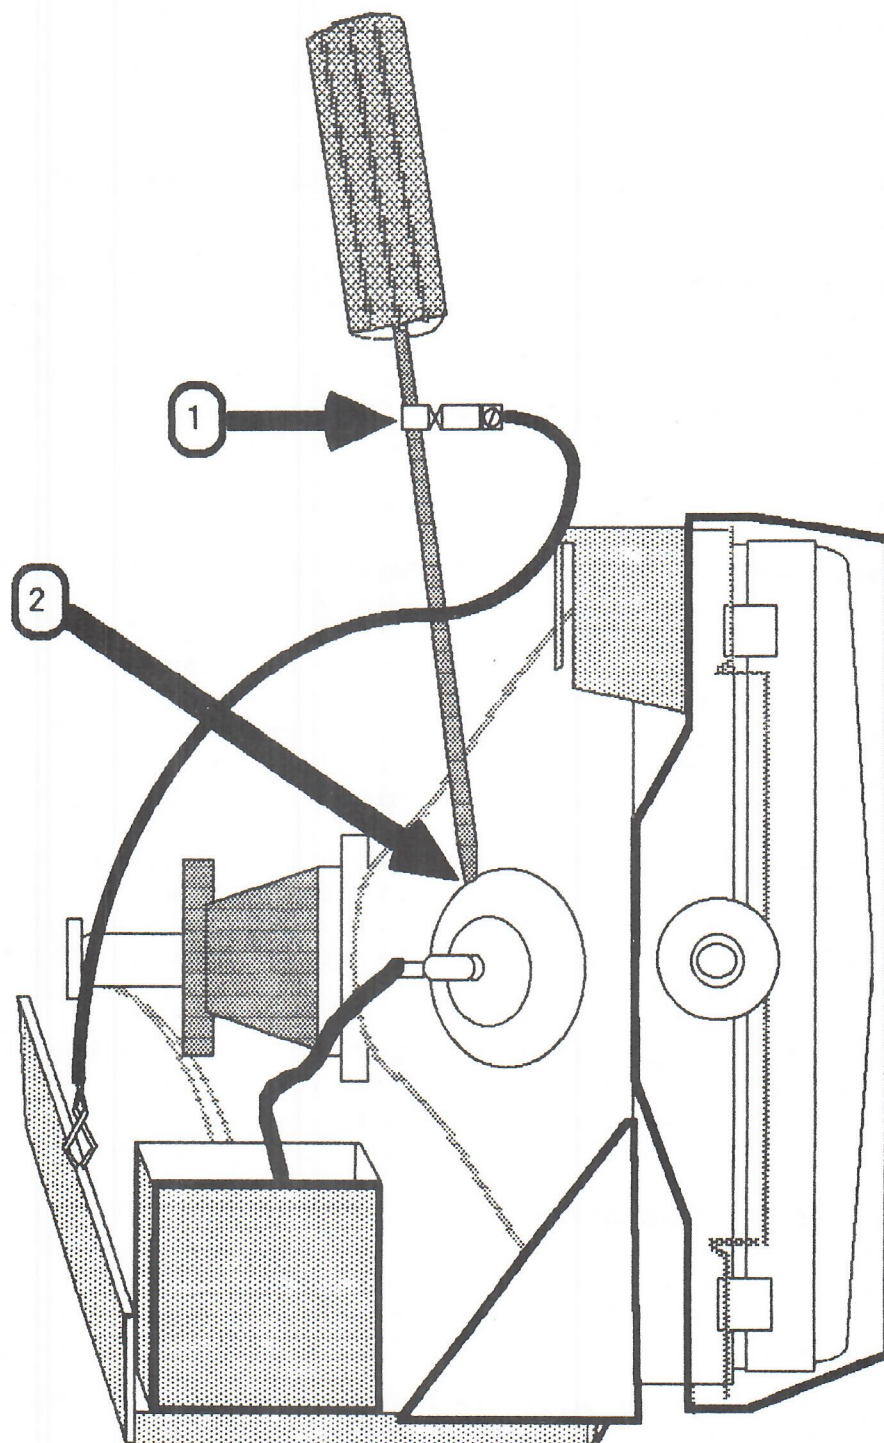

FIGURE 2
7. Attach one end of an alligator lead to a long flatblade screwdriver, two inches from the insulated handle. Attach the other end to any part of the metal chassis surrounding the CRT. (Figure 2, #1).
8. Slide the screwdriver under the CRT anode cap (Figure 2, #2) and push it towards the center of the cap until the blade comes into contact with the metal anode ring.